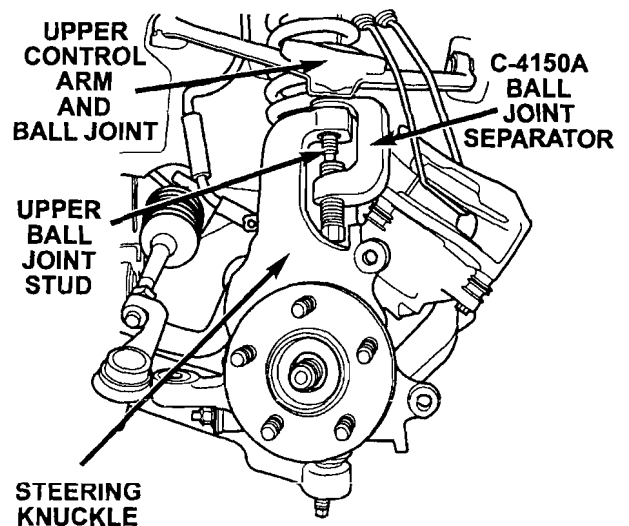

Figure 4
12. Separate the upper ball joint from the knuckle using tool C-4150A (Figure 4).